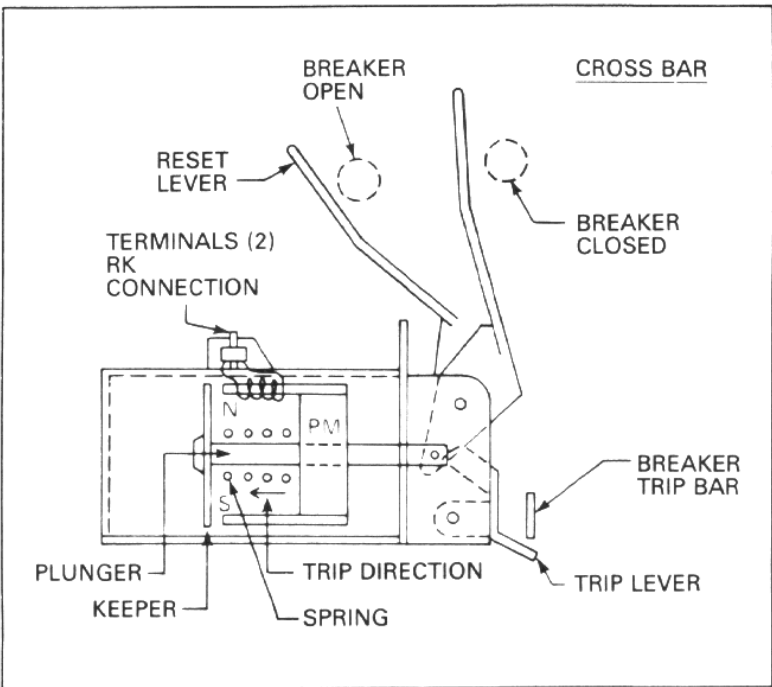

Fig. 2 Actuator Diagram
When the actuator receives a tripping current from the RK, it releases a mechanical force to trip the breaker. The actuator is made up of a permanent magnet and a spring (see Fig. 2). When the breaker is open, the cross bar pushes the reset lever. The reset lever moves the plunger out, and the plunger then compresses the spring and pulls the keeper until it contacts the pole pieces of the magnet. Although the magnet cannot pull and reset the keeper against the force of the spring acting on the plunger, it can hold the spring force when the keeper is in contact with the magnet. A tripping current from the RK unit counteracts the efforts of the permanent magnet allowing the spring to separate the keeper from the magnet and move the plunger to actuate the trip lever.
3. Operate the actuator a few times. Alternately pull back on the reset lever (see Fig. 2) and then trip by applying 9 to 12 volts dc (be sure to use correct polarity) to the terminals.